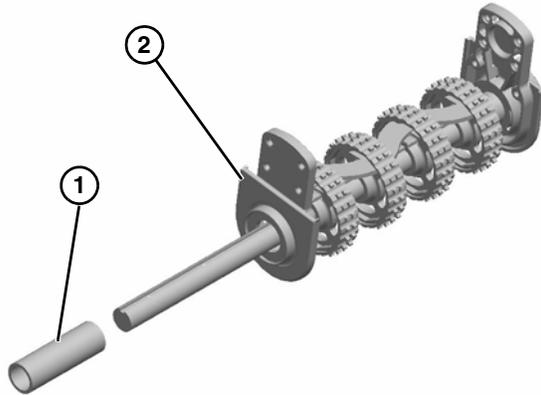

Figure 40
- Slide off tube spacer (Figure 40, item 1) and tail through plate (Figure 40, item 2).